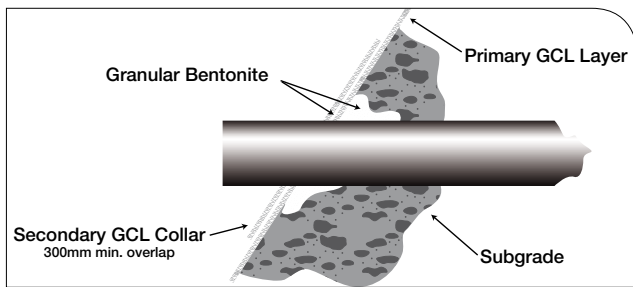
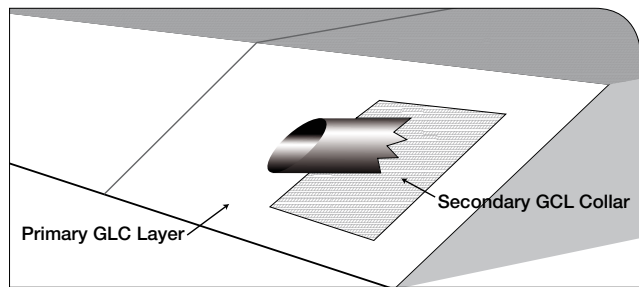
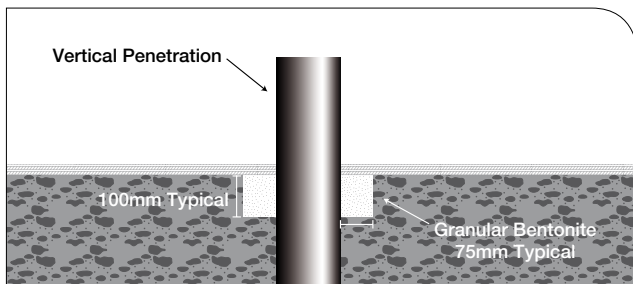
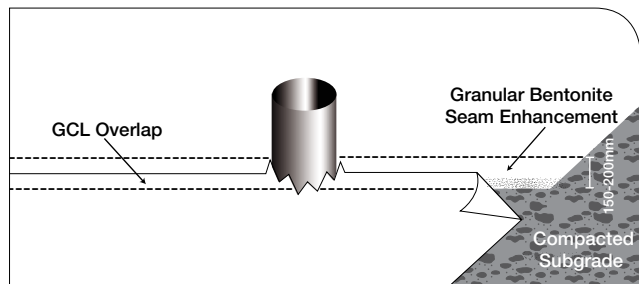

FIGURE 12A Cross-Section of a Horizontal Pipe Penetration
FIGURE 12B Isometric View of a Completed Horizontal Pipe Penetration
FIGURE 13A Cross-Section of a Vertical Pipe Penetration
FIGURE 13B Isometric View of a Completed Vertical Pipe Penetration
8.3 When the GCL is placed over a horizontal pipe penetration, a “notch” should be excavated into the subgrade around the penetration (Figure 12A). The notch should then be backfilled with granular bentonite. A secondary collar of GCL should be placed around the penetration as shown in Figure 12B. It is helpful to first trace an outline of the penetration on the GCL and then cut a “star” pattern in the collar to enhance the collar’s fit to the penetration. Granular bentonite should be applied between the primary GCL layer and the secondary GCL collar.
8.4 Vertical penetrations are prepared by notching into the subgrade as shown in Figure 13A. The penetration can be completed with two separate pieces of GCL as shown in Figure 13B. Alternatively, a secondary collar can be placed as in Figure 12A or 12B.